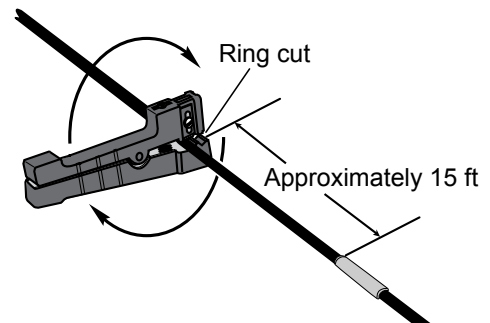

Figure 11
- Step 2:** Use the Ideal tool to make the first ring cut at one of the tape marks (Figure 11).
- Step 3:** Make the second ring cut at the second tape location, or simply trim off jacket (Figure 11).